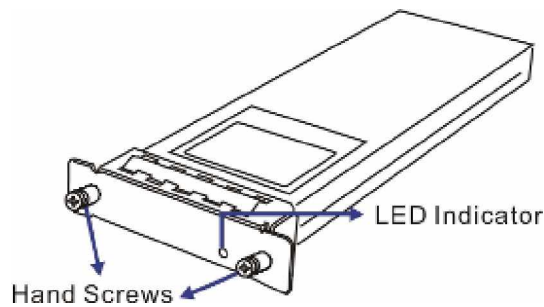

Figure 1-17: BBU
Two (2) Li-ION BBU, shown in **Figure 1-17** come standard in MAGELLAN. The BBU is an optional item that must be purchased separately for MAGELLAN model. The BBU can sustain cache memory after a power failure. The use of a BBU is highly recommended in order to safeguard data integrity. The BBU or a BBU slot is located on the upper left side of the controller module in the rear subsystem chassis. If you are using the MAGELLAN- G1420 and would like to install a BBU, please refer to **Section 2.8**.